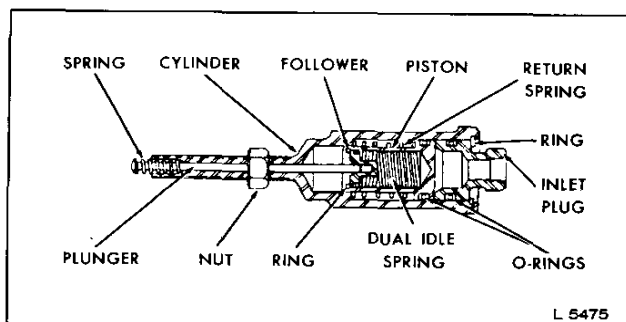

Fig. 2 - Fast Idle Air Cylinder
2. Refer to Fig. 2 and disassemble the fast idle cylinder as follows:
- a. Refer to Fig. 2 and insert the dual idle spring inside of the fast idle air cylinder. Place the spring follower, with the small diameter end down, inside of the spring. Apply pressure on the spring follower and compress the spring enough to expose the retaining groove. Then install the retaining ring in the groove.